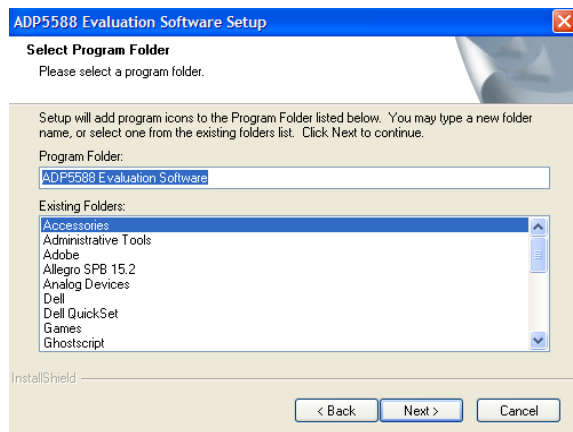

Figure 8. Select Program Folder
5. When the screen in Figure 8 appears, click **Next >** to add the program icons in the default program folder.